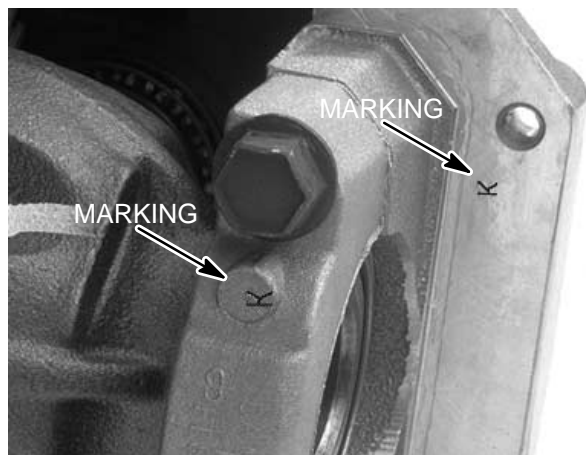

Figure 56
**IMPORTANT:**The bearing caps are marked for identification. Place caps back in the same position during reassembly (Fig. 56).
11. Secure bearing caps to their original positions on the bearing cradles with for cap screws (11). Torque cap screws from 30 to 45 ft-lb (4.1 to 6.2 kg-m) (Fig. 56).